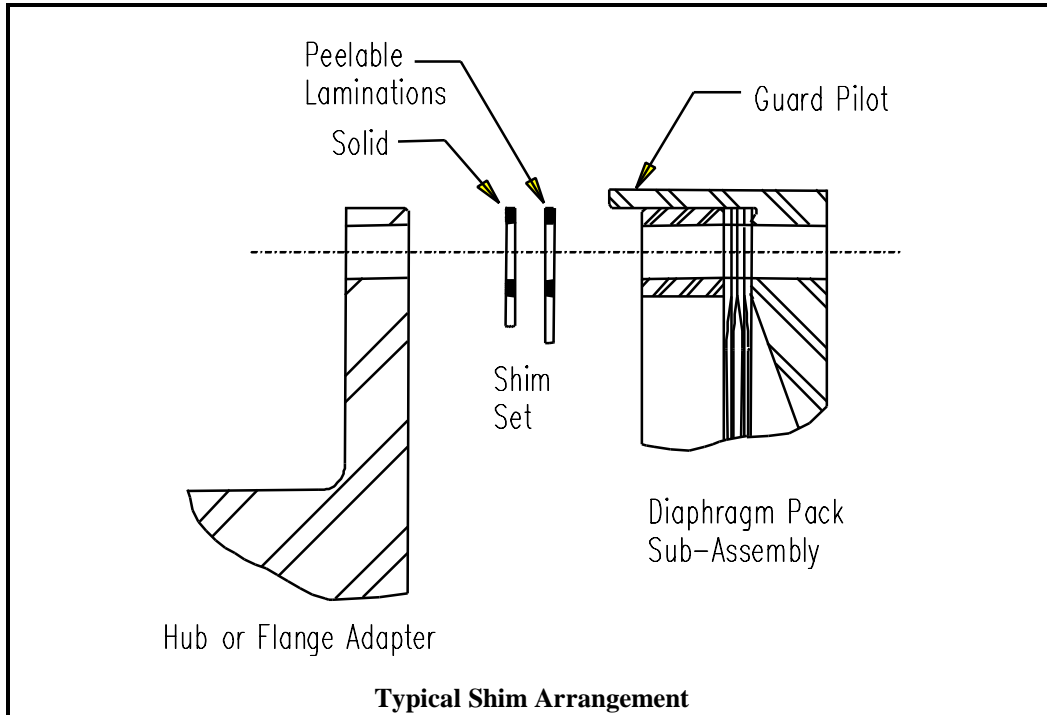
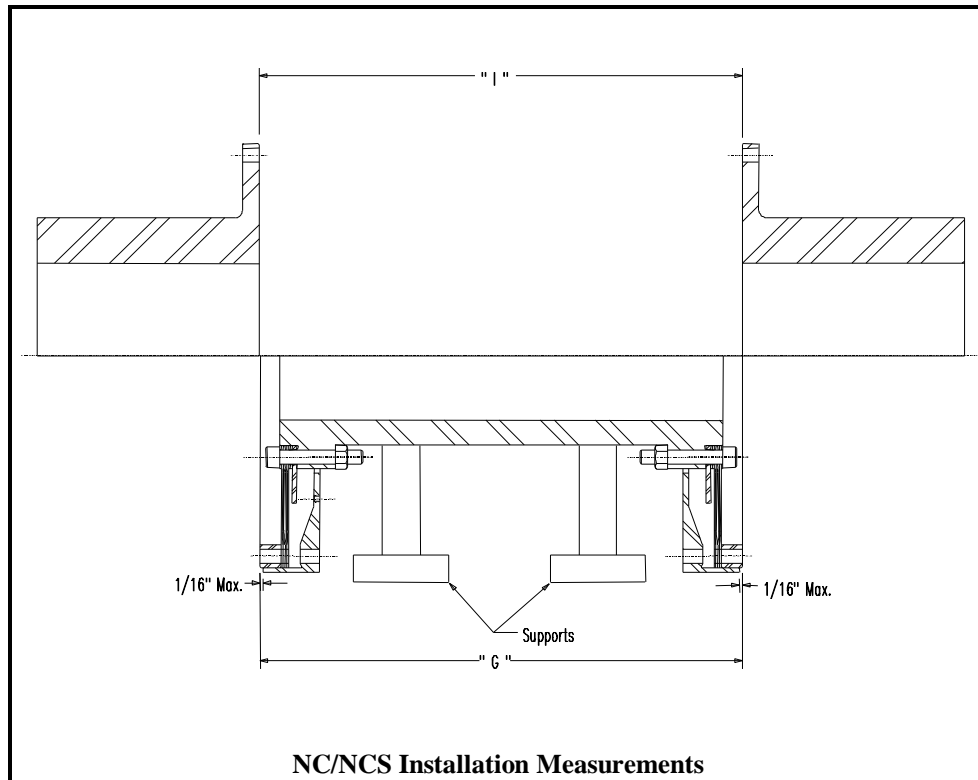

Figure 4-6
Figure 4-7
Shims are provided to adjust the length of the coupling at installation to accommodate variations in flange-to-flange dimensions ("I" dimension as shown in Figure 4-7) within the limits specified on the Ameridrives sales drawing. The coupling spacer is intentionally made short by the thickness of one shim set. This allows for flange-to-flange adjustability equivalent to the thickness of one shim set in either direction. Two shim sets are normally provided (see Figure 4-6). Refer to the Ameridrives Sales Drawing for location and quantity of shims.
- 4.4.1.2 Measure and record, on the worksheet provided in Paragraph 4.4.3, the installation length "I" (distance between mounted flange faces) at four (4) places approximately 90° apart (see Figure 4-7).